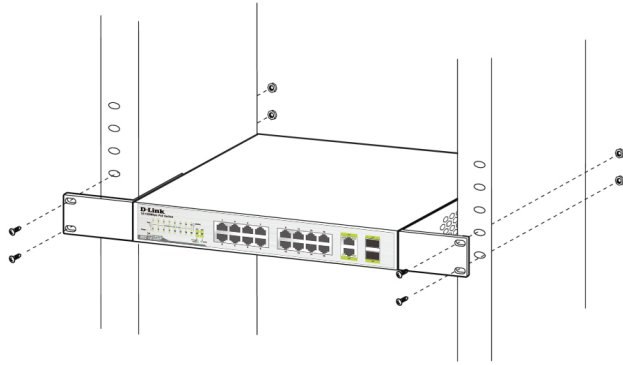

Figure 4. Mount into the Rack
- Use the screws provided with the equipment rack to mount the device in the rack as shown in **Figure 4**.